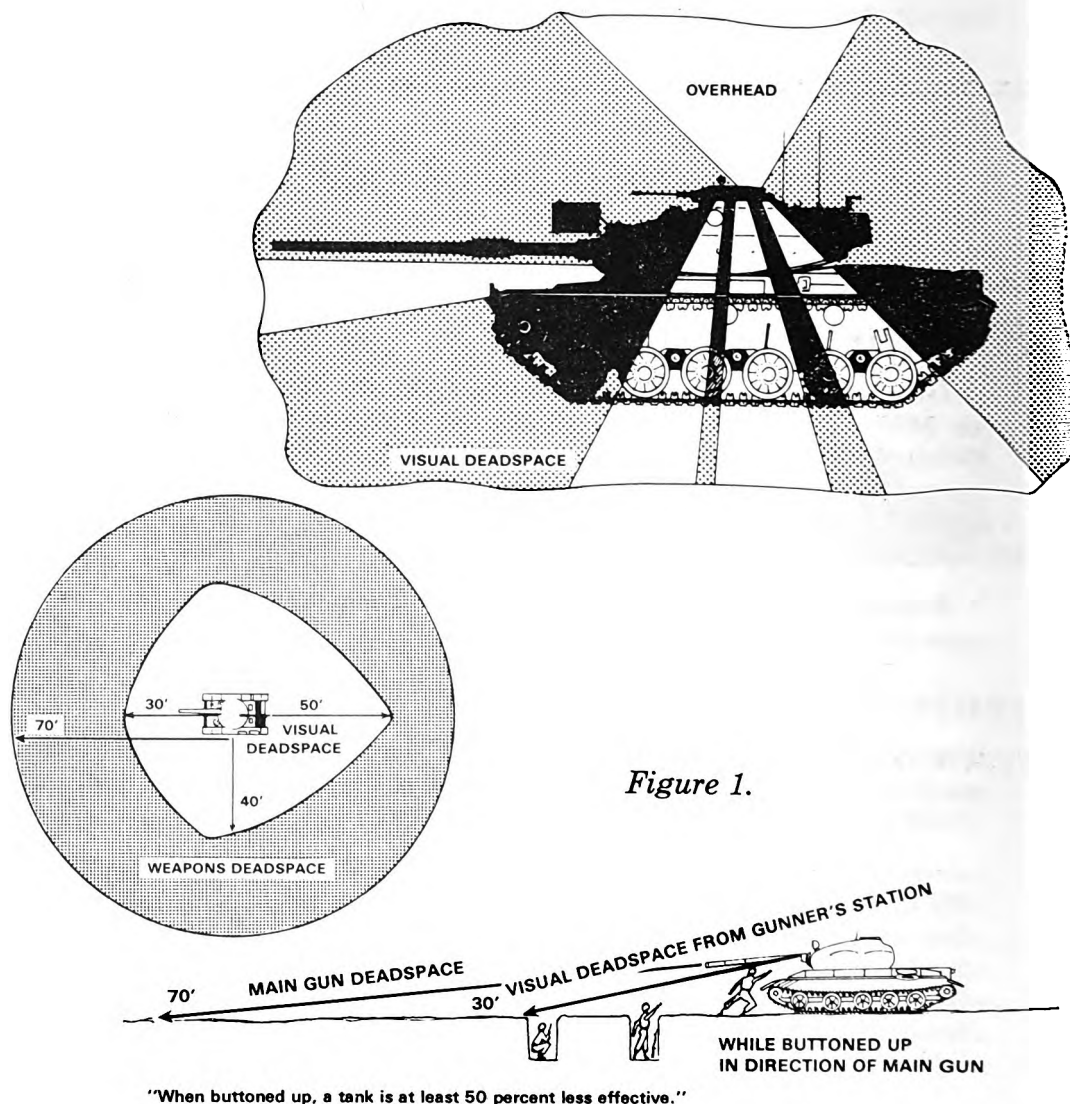

Figure 1.
a. Although tank crewmen are more likely to be injured when exposed, they prefer to keep hatches open and remain exposed until they come under fire because, when buttoned up, the crew must operate with increased visual deadspace. By taking advantage of this visual deadspace, dismounted elements can approach and destroy a tank using numerous antitank devices. A representative diagram illustrating visual deadspace is shown in figure 1.